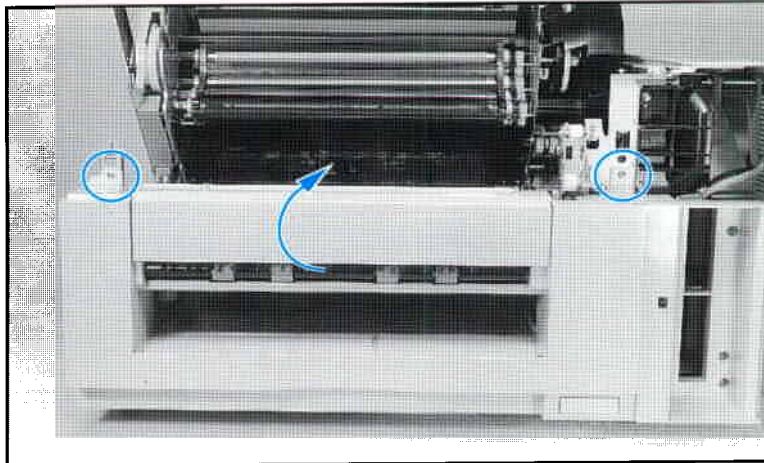

Figure 6-9
2. Remove the (2) screws shown in Figure 6-9.